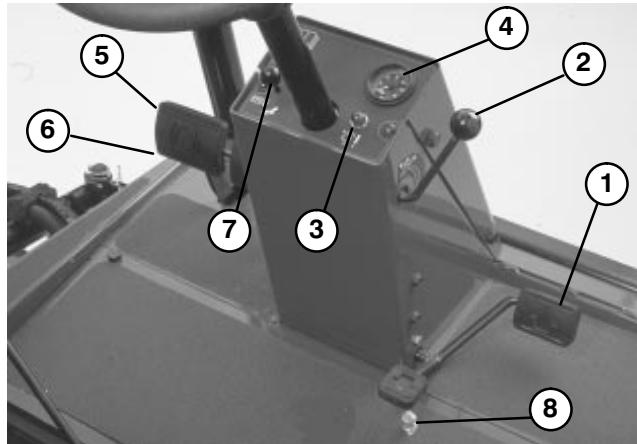

Figure 14
**Traction Pedal** (Fig. 14) – Controls forward and reverse operation. Depress top of pedal to move forward and bottom to move backward. Ground speed depends on how far pedal is depressed. For no load, maximum ground speed, fully depress pedal while throttle is in FAST.
**Forward Speed Limiter** (Fig. 14) – Preset this lever to limit the amount the traction pedal can be depressed in the forward direction to maintain a constant mowing speed.
**Reel Control Light** (Fig. 14) – When lit steady, it indicates machine is being operated in a way in which the automatic reel speed control cannot obtain the desired clip.
**Speedometer** (Fig. 14) – Indicates ground speed at which machine is traveling.
**Brake Pedals** (Fig. 14) – Two foot pedals operate individual wheel brakes for turning assistance, parking and to aid in obtaining better sidehill traction. Locking pin connects the pedals for parking brake operation and transport.
**Parking Brake Latch** (Fig. 14) – A knob on the left side of console actuates parking brake lock. To engage parking brake, connect pedals with locking pin, push down on both pedals and pull parking brake latch out. To release parking brake, depress both pedals until parking brake latch retracts.
**Reverse Speed Limiter** (Fig. 14) – Adjust screw to limit the amount the traction pedal can be depressed in the rearward direction to limit speed.